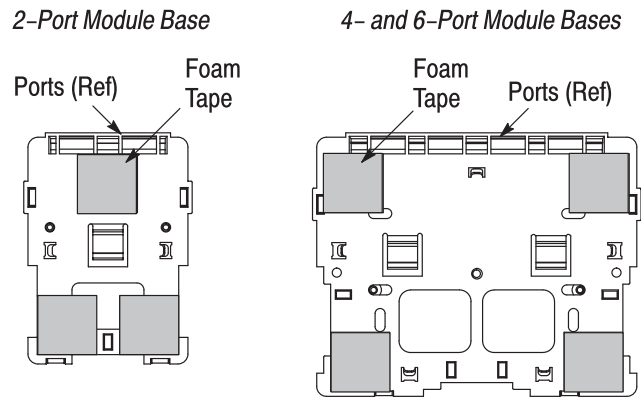

Figure 2
1. Remove the protective adhesive paper from one side of the foam tape, and place the foam tape on the bottom of the module base. Recommended location is shown in Figure 2.